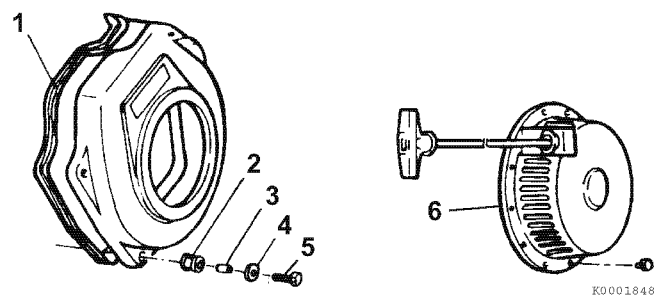

Figure 6-104
11. Attach the rubber seal (1, **Figure 6-104**) to the fan housing.
12. Install the fan housing rubber supports (2, **Figure 6-104**) and sleeves (3, **Figure 6-104**).
13. Install the cooling fan housing and secure with washers (4, **Figure 6-104**) and bolts (5, **Figure 6-104**). Install the recoil starter (6, **Figure 6-104**) if it has been removed.